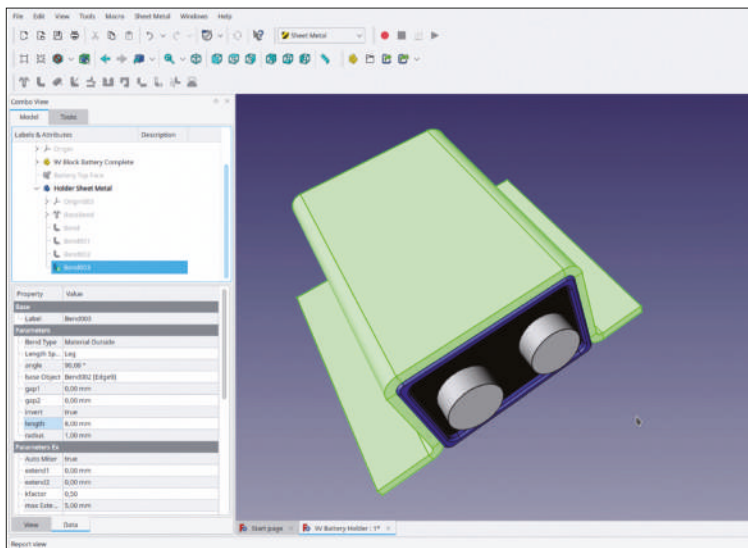

Figure 5-11
14. In the same way, attach two walls to the opposite side of the battery holder (Figure 5-11).